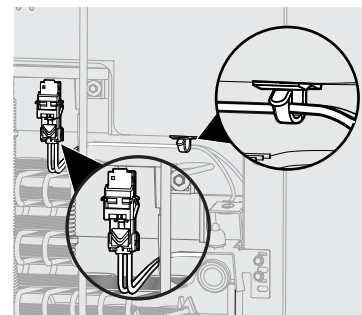

Figure 18
15. Plug connector on water valve wire harness into the connector above the condenser coil. Install the water valve clip at the bottom right side of the unit, and route and attach the water valve harness into the clip. See Figure 18.